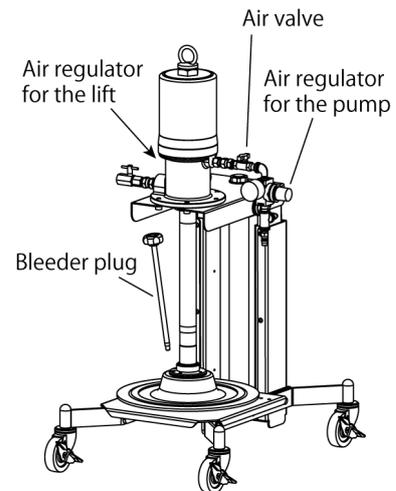

Fig. 3
- 1) Remove the bleeder plug from the inductor plate. (Fig. 3)
- 2) Shut off the air valve of the pump unit. Then, turn the controls of both regulators (pump and lift) to the left (counterclockwise) to loosen them. (Fig. 3)